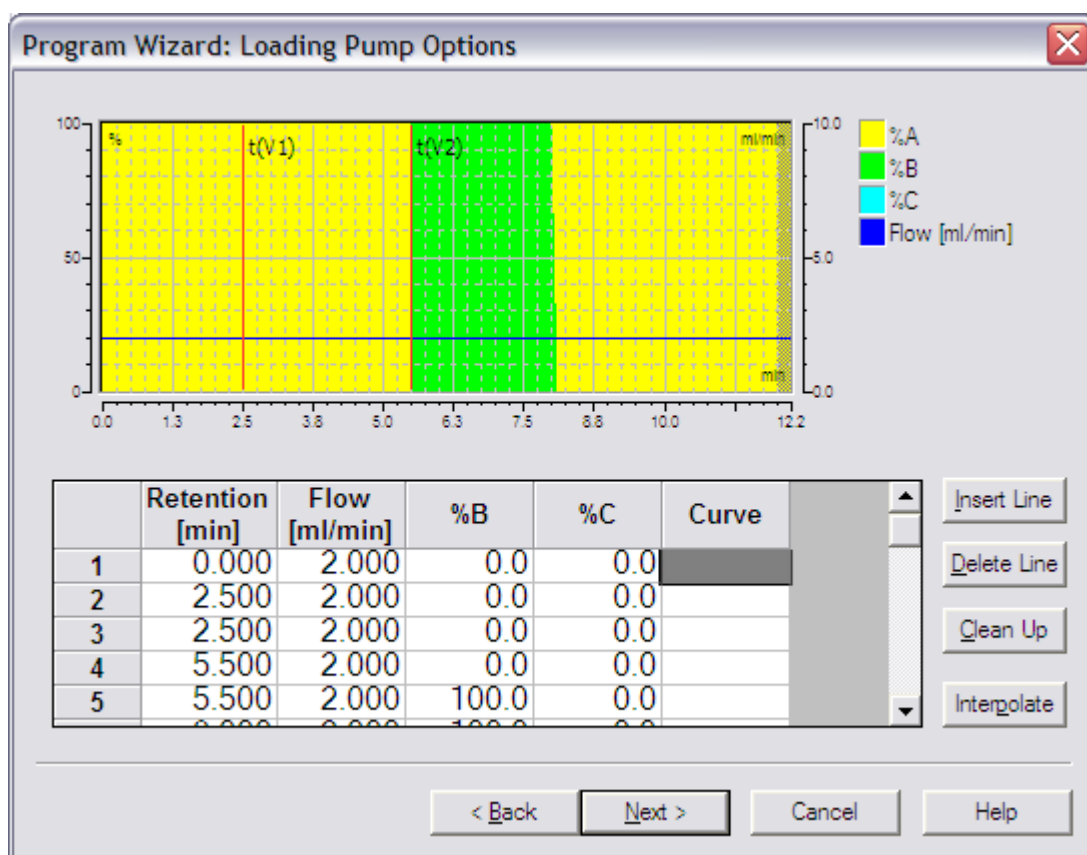

FIGURE 6-13: Program wizard – Loading Pump options.
- After specifying the settings described above, the gradient profile for the **Loading Pump** is specified. In this example (FIGURE 6-13) the column switching times are marked as $t(V1)$ and $t(V2)$.